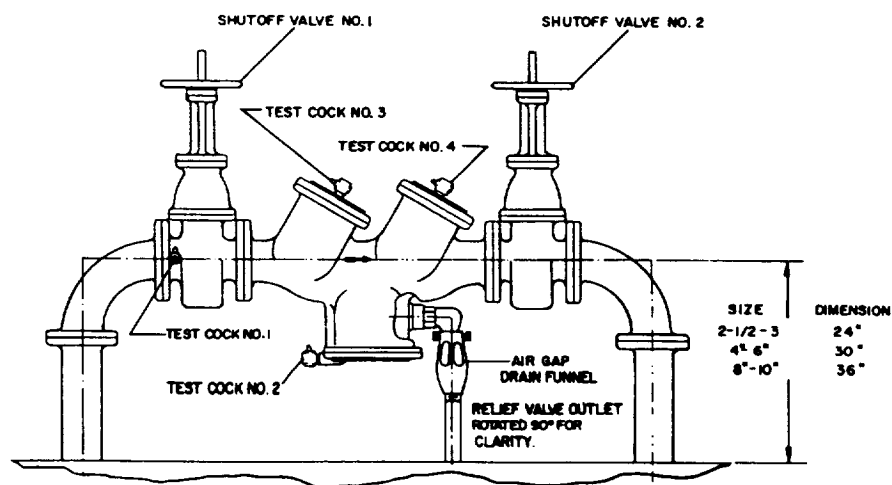

FIGURE 2
### A. WARM CLIMATE ABOVE GROUND INSTALLATION (Fig. 2)
- C) Sufficient clearance must be provided beneath the device to permit removal of the relief valve and housing assemblies. Recommended pipe center line - floor (or ground) dimensions are shown on Figure 2.